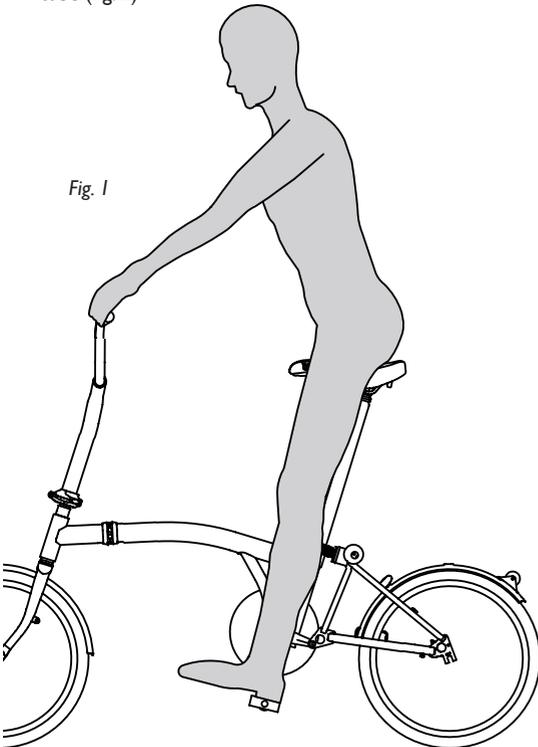

Fig. 1
- Adjust the saddle height so that when the pedal is at the bottom of the stroke and the heel of the shoe is on the pedal, your leg is straight (fig. 1)